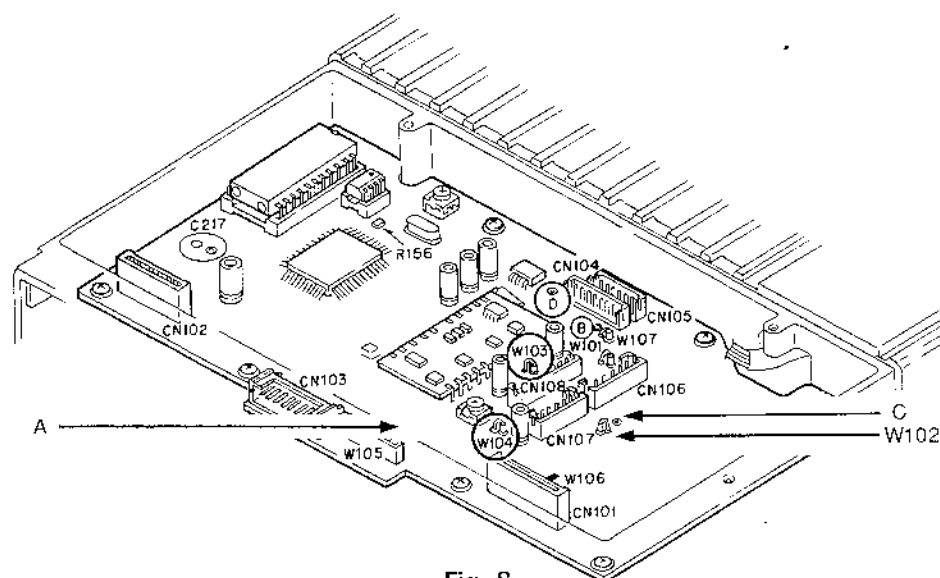

Fig. 8
5. Cut W102 on the control unit, then connect A and C on the control unit. (Fig. 8)